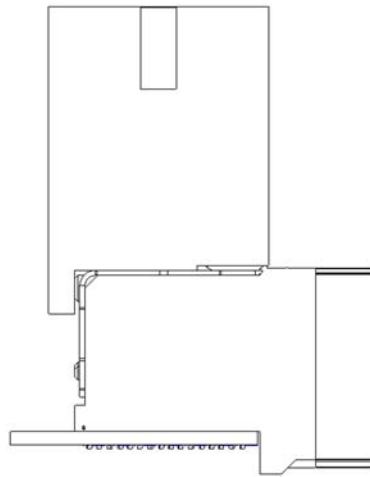
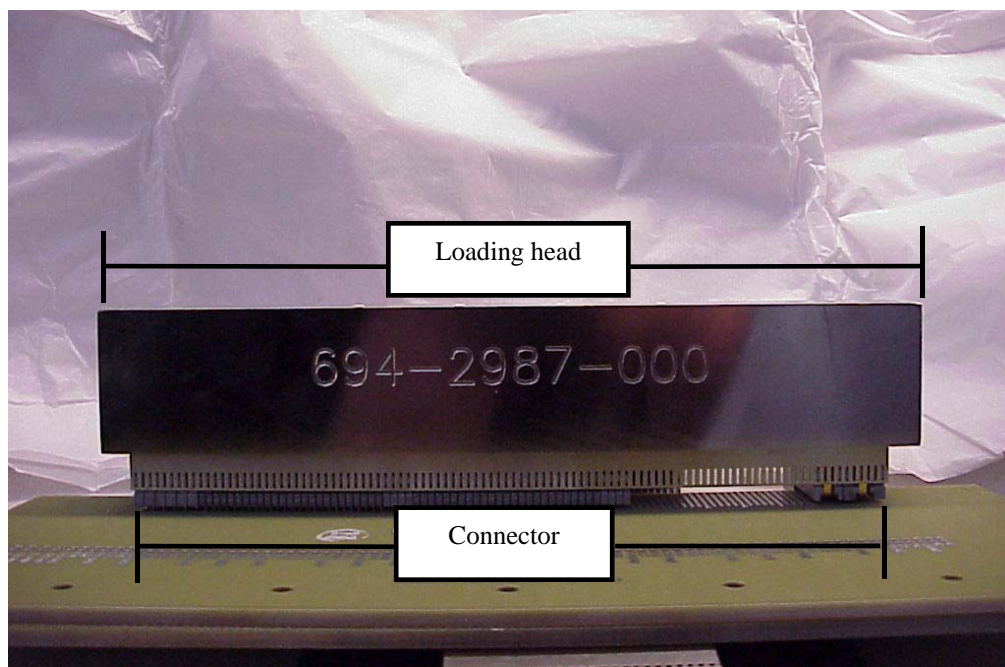

Figure 7. 4 Pair Loading Head and Module
Figure 8. Connector seating head extending over the edge of daughtercard connector
- Step 8. Select the correct seating head based on the connector type and the length of the connector (see Figure 7). Ensure the seating head at a minimum is the same length as the connector (see Figure 8). Position the seating head directly on top of the connector, ensuring the clearance slot is over the wafer "retention hats" and the rear alignment rib is against the stiffener back (see Figure 9).